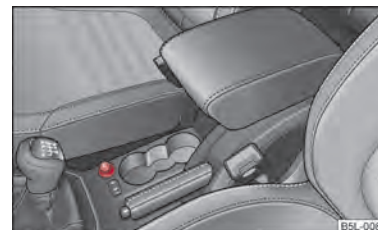

Fig. 74 Centre console: Cigarette lighter
- Press in the button of the cigarette lighter ⇒ fig. 74.